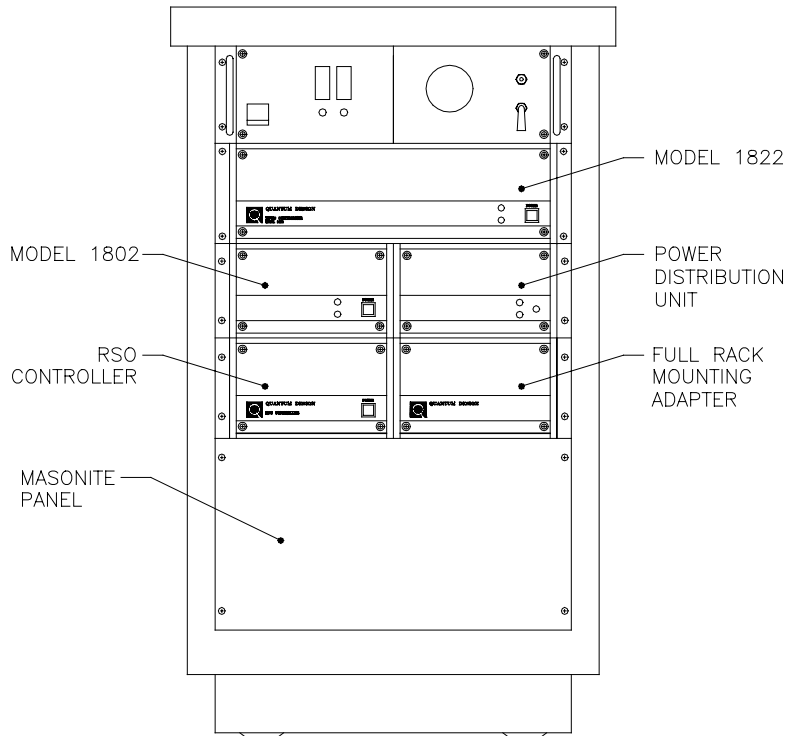

Figure 13. The MPMS console cabinet after installation is complete
1. Slide the RSO controller, along with the attached full rack-mounting adapter, into the console cabinet immediately below the Model 1802 and the power distribution unit (**Figure 13**).
5. Install the new masonite blank panel on the bottom front of the console cabinet using the four screws that were used for the old panel (**Figure 13**).